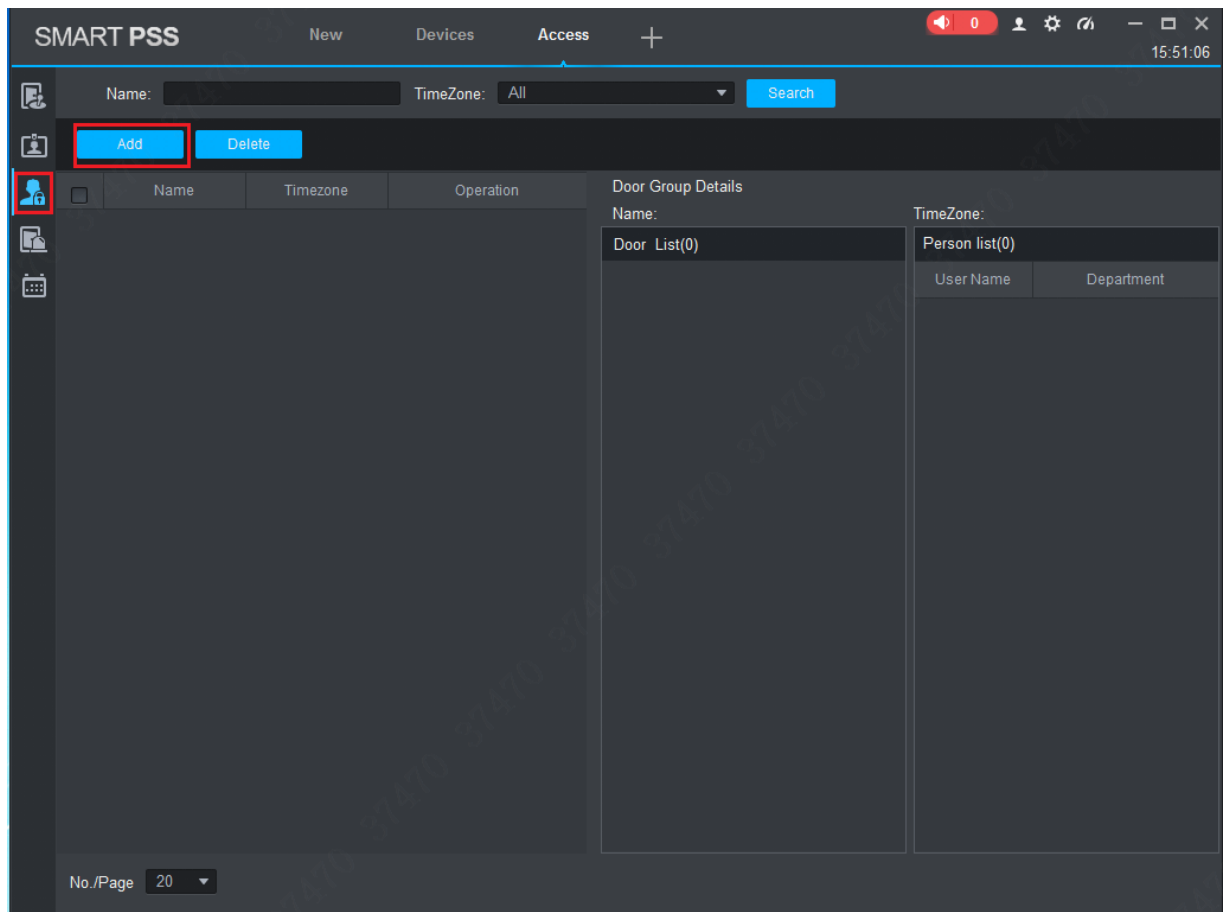

Figure 4-13
Step 1 In “Access” interface, click , and then click “Access Level”, as shown in Figure 4-13.